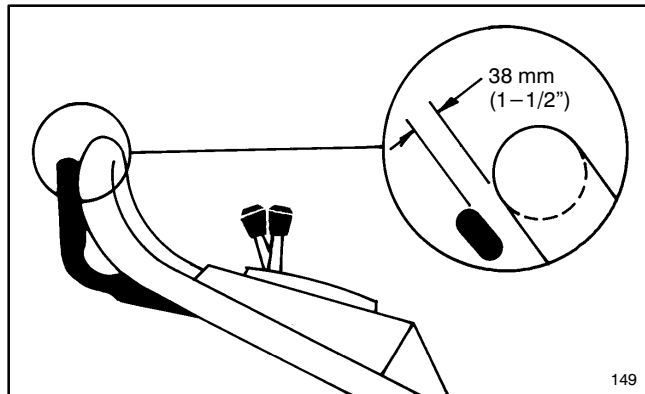

Figure 24
2. Lift control bar until some resistance is felt. Control bar should be 38 mm (1 1/2") from handle when properly adjusted (Fig. 24).